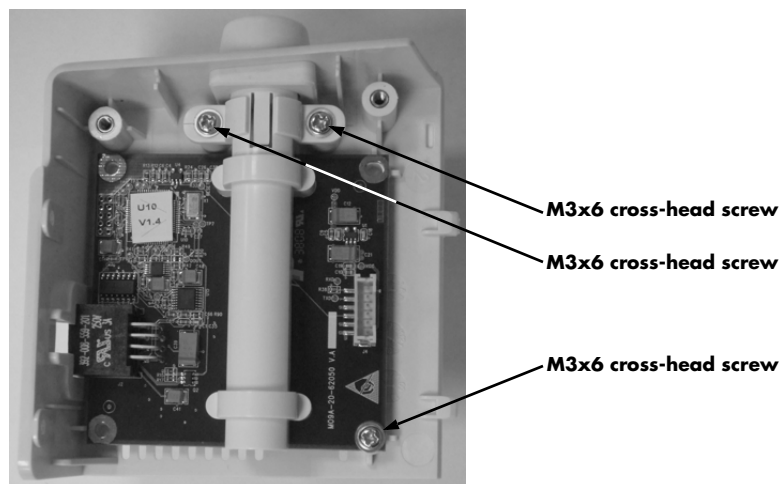

FIGURE 4-27 Remove three (3) M3x6 cross-head screws.
3. Remove the three (3) M3x6 cross-head screws (as shown in Figure 4-27).